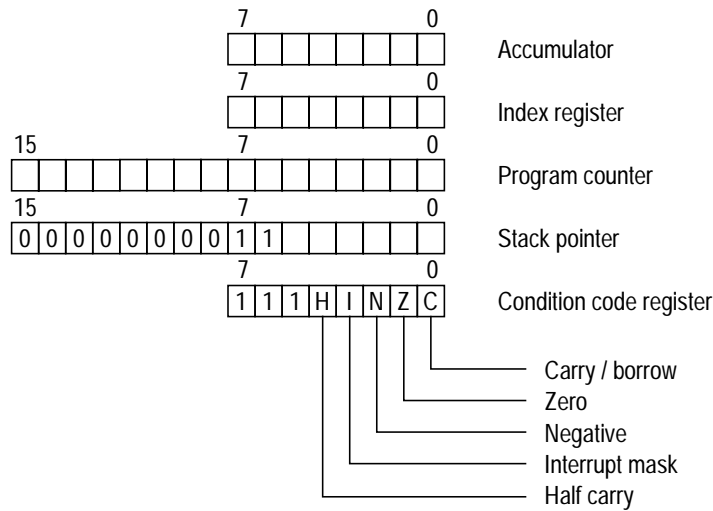

Figure B-2 Programming model of the MC68HC05D32
The programming model of the MC68HC05D32 is identical to that of the MC68HC05D9, except for the program counter (see Figure B-2). Only bit 15 of the program counter (PC) in the MC68HC05D32 is permanently set to zero, thus restricting the address range to \$0000–\$7FFF (32K bytes).